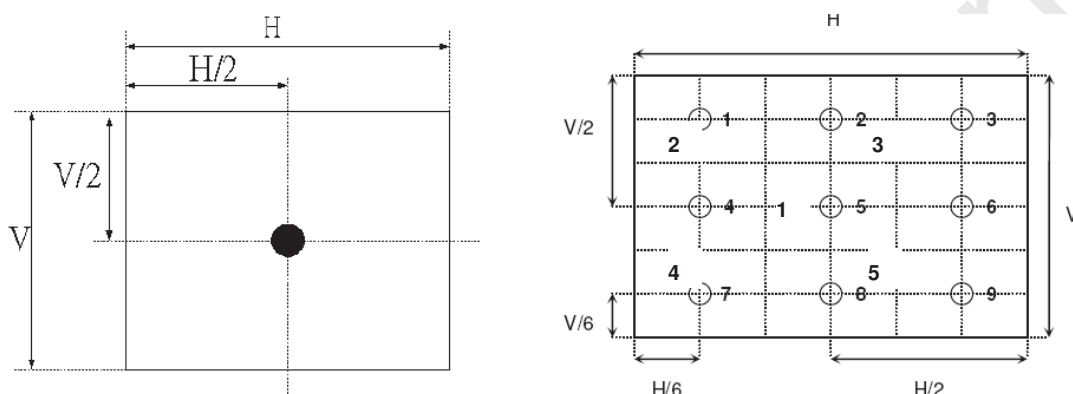

Fig.4-2 Optical measurement point
2. Surface luminance is luminance value at point 1 across the LCD surface 50cm from the surface with all pixels displaying white. From more information see Fig. 4-2. When $V_{\text{DDB}} = 24\text{V}$, $I_{\text{DDB}} = 12.5\text{A}$. $L_{\text{WH}} = L_{\text{on1}}$, Where L_{on1} is the luminance with all pixels displaying white at center 1 location.